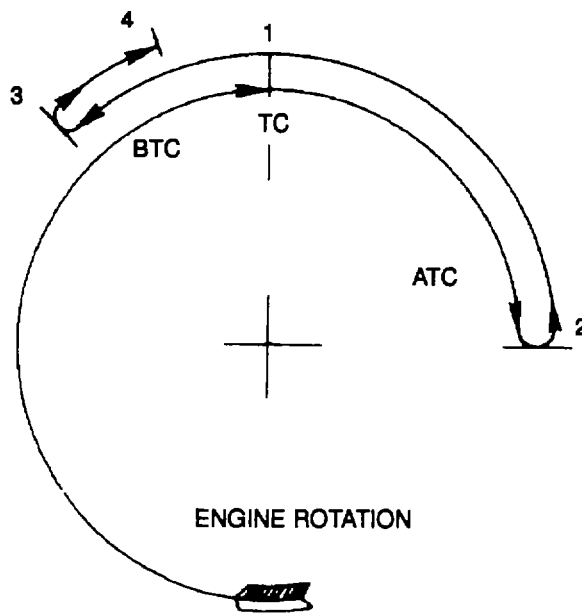

Figure 9-22. Injection Timing Diagram
- (e) Rotate the crankshaft back and forth to assure the piston is precisely at TC on the compression stroke (1, Figure 9-22). TC is indicated by the maximum clockwise position of the piston travel indicator pointer. Turn the piston travel indicator face to align the zero with the pointer. Lock the face with the thumbscrew.
- (f) Rotate the crankshaft in the direction of the engine rotation (2, Figure 9-22) approximately 90 degrees ATC (after top center). Turn the push rod travel indicator face to align the zero with the pointer. Lock the face with the thumbscrew.
- (g) Rotate the crankshaft back and forth to assure the piston is precisely at TC on the compression stroke (1, Figure 9-22). TC is indicated by the maximum clockwise position of the piston travel indicator pointer. Turn the piston travel indicator face to align the zero with the pointer. Lock the face with the thumbscrew.
- (h) Rotate the crankshaft in the direction of the engine rotation (2, Figure 9-22) approximately 90 degrees ATC (after top center). Turn the push rod travel indicator face to align the zero with the pointer. Lock the face with the thumbscrew.
- (i) Rotate the crankshaft opposite the direction of rotation through TC to 45 degrees BTC (before top center) (3, Figure 9-22).
- (j) Rotate the crankshaft in the direction of rotation (4, Figure 9-22) until a reading of 0.2032 inch (5.161 mm) BTC is reached on the piston travel indicator. At this position, the push rod travel indicator should read 0.124 to 0.128 inch (3.15 to 3.25 mm).